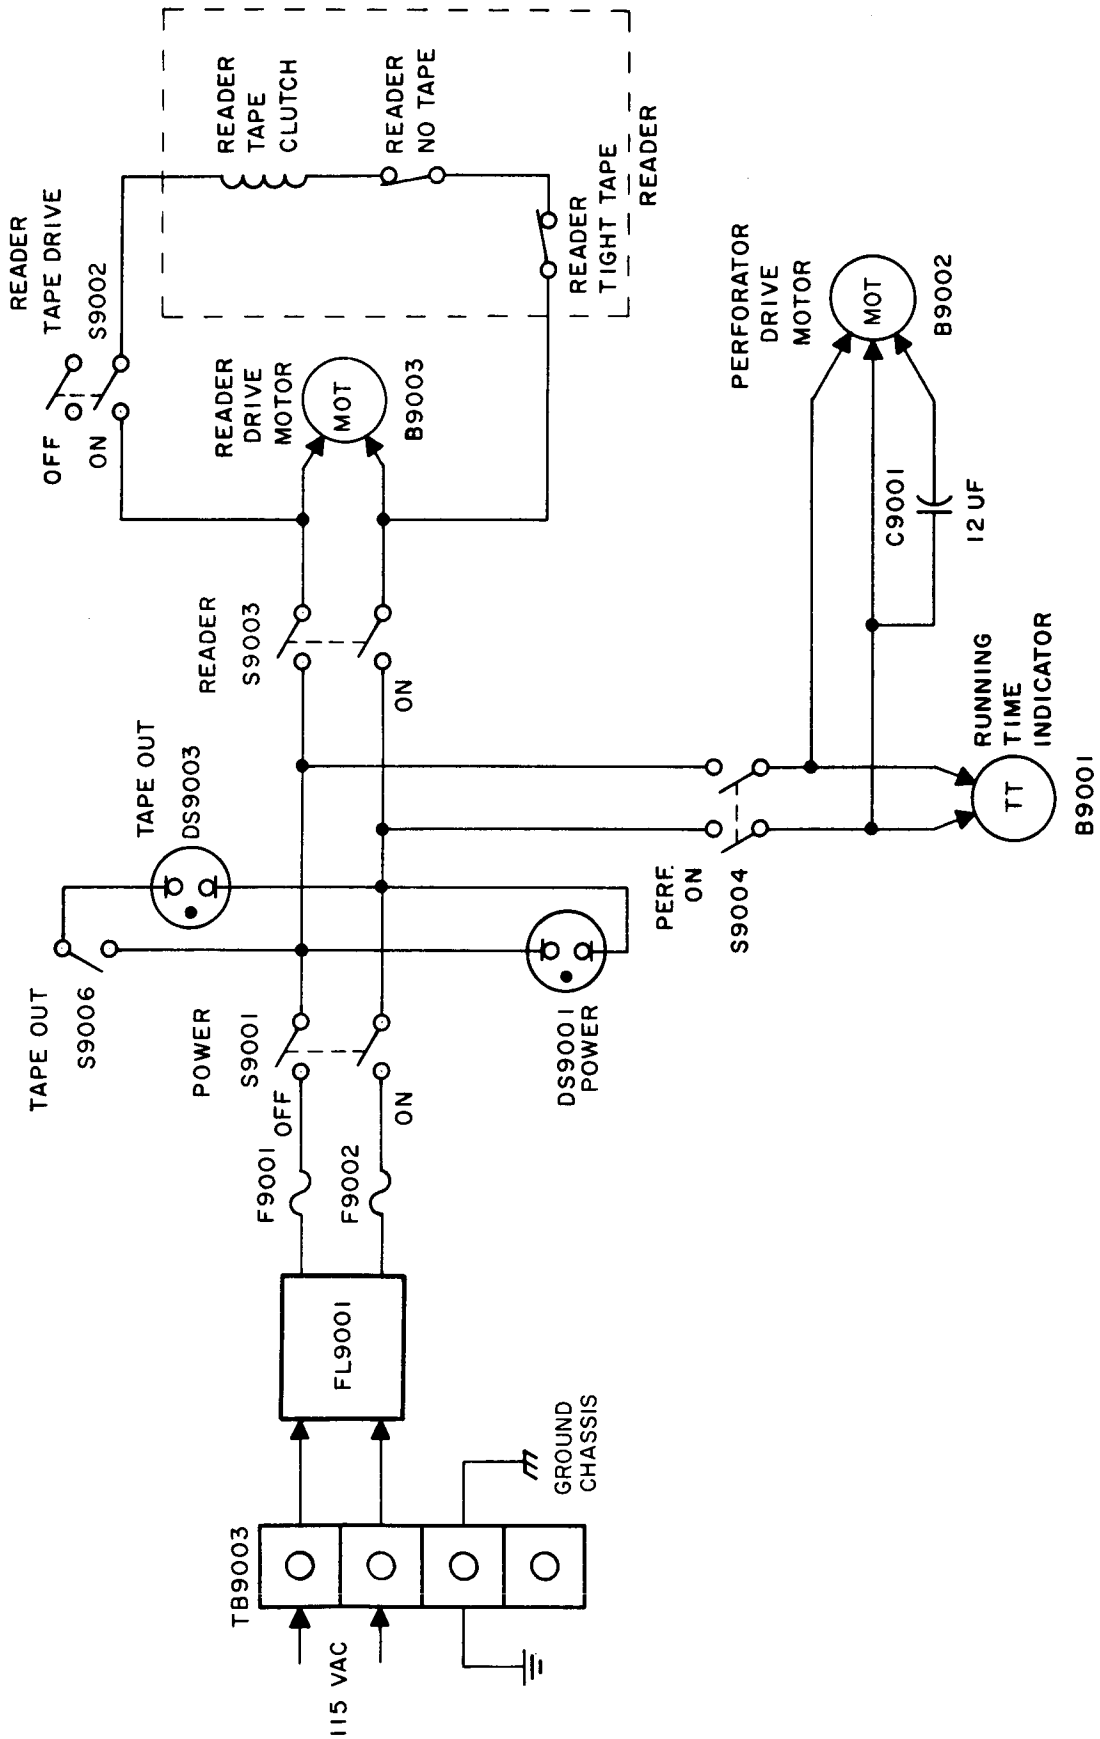

Figure 4-2. Power Circuit, Simplified Schematic Diagram
a. POWER CIRCUIT. - Alternating current at 115 volts is applied to the perforator drive motor, the running-time indicator, and the reader drive motor through the power circuit (figure 4-2). Filter circuit FL9001 prevents feedback into the power line of interference created by the drive motors. Two fuses, F9001 and F9002, are in series in each of the two power lines. POWER switch S9001 completes the circuit between the fuses and the other power switches in the perforator-reader. An indicator lamp, DS9001, located next to the POWER switch, lights up when switch S9001 is in the ON position. Switch S9004, PERF, is used to apply power to the perforator drive motor B9002 and to the running time indicator B9001.